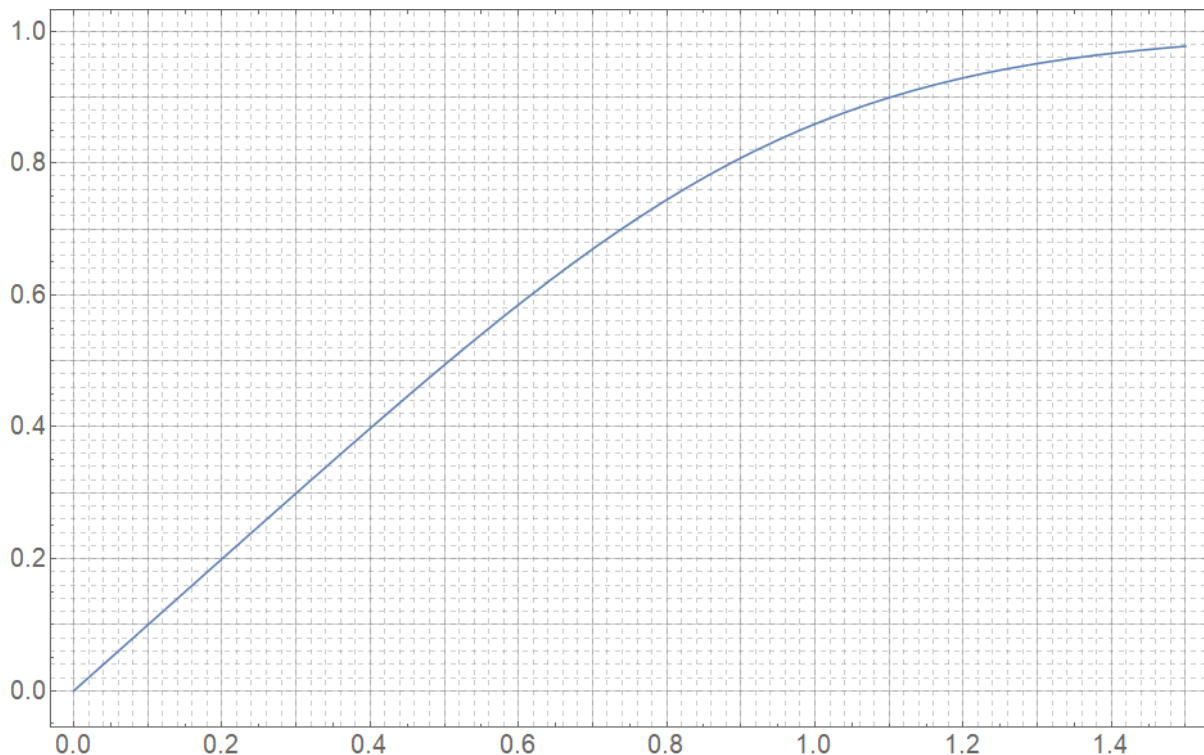

Figure 4: Graph of the function $u \rightarrow y(u)$ solution of the differential equation $y'(u) = 1 - y(u)^4$.
- 2.e. The graph of $y(u)$ is shown in Fig. 4 for $u \in [0, 1]$. Comment the figure. Considering that the coolant enters the collector at a temperature $T(0) = 50^\circ\text{C}$, estimate the output temperature $T(L)$. Perfect absorption of the incident sunlight ($a = 1$) is assumed in this question.